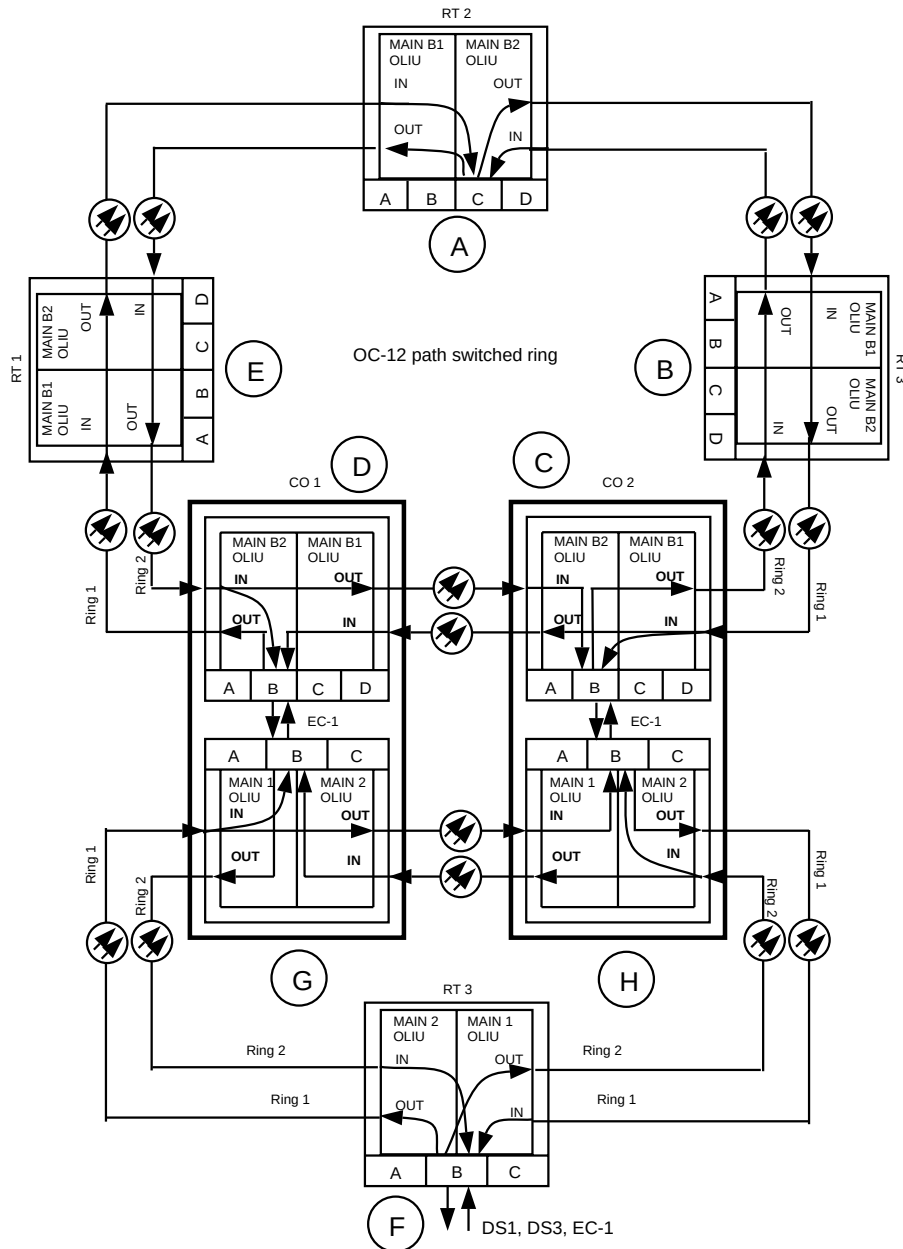

Figure 1. OC-3/OC-12 DRI Interworking
16. At the dual ring interworking nodes having circuit packs replaced, remove both **3STS1E** circuit packs from the OC-12 node and both **STS1E** circuit packs from the OC-3 node. (For example, see Figure 1. Remove the **3STS1E** circuit packs from the OC-12 at node C and the **STS1E** circuit packs from the OC-3 at node H.)
(For example, between nodes C and H in Figure 1).
Determine the network configuration (for example, see Figures 1 and 2.)